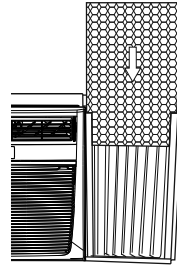

FIG. 24
3. Place the patterned side of the insulation panel to face inside your room, then slide the insulation panel into the frame until the panel goes into the side curtain frame completely. If the insulation panel does not slide in the frame smoothly, trim the insulation panel then try again, until the insulation panel fits the frame (FIG. 24).